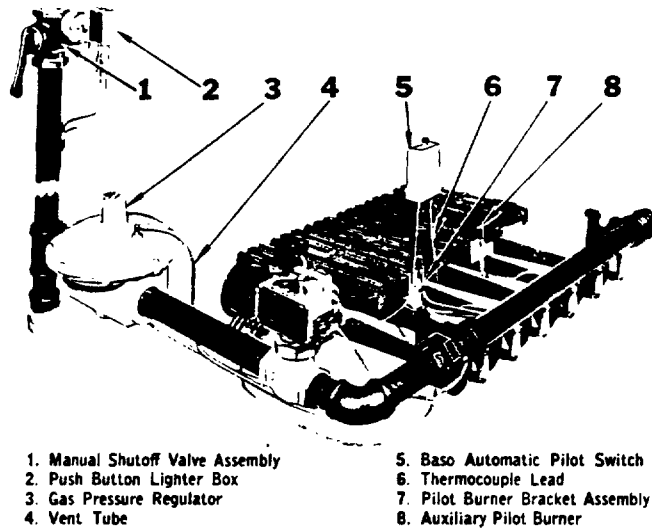
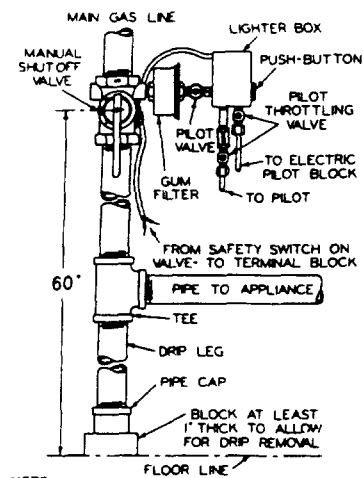

FIG. 12—Control Connections
FIG. 14—Supply Piping Electric Ignition
1. Connect pilot lines from manual shutoff valve, shown in supply piping arrangement, Fig. 14, to unions in line to pilot burner and electric ignition block on burner No. 2. Auxiliary pilot burners should be connected to pilot burner line with $\frac{1}{8}$ brass tee or elbow. See Fig. 12.